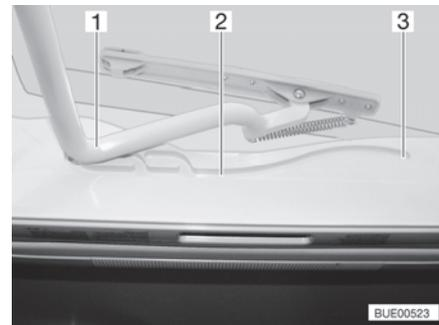

Fig. 30 Guide (Heki skylight)
- Pull the bar (Fig. 30,1) in the guides (Fig. 30,2) to the rearmost position (Fig. 30,3).
- Use both hands to push the bar (Fig. 30,1) slightly upwards.
- Pull the bar in the guides (Fig. 30,2) to the desired position.